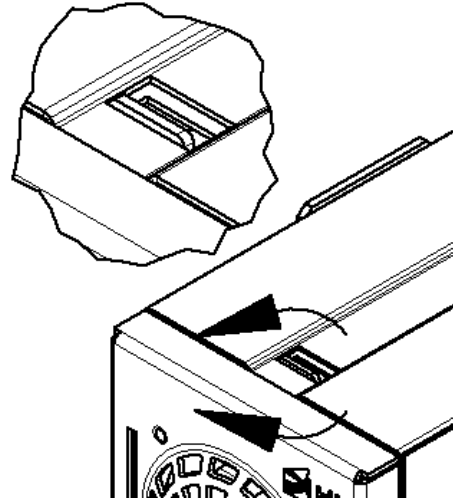

Figure 6
6. Make sure that handle is fully latched into the housing groove (Fig. 6).